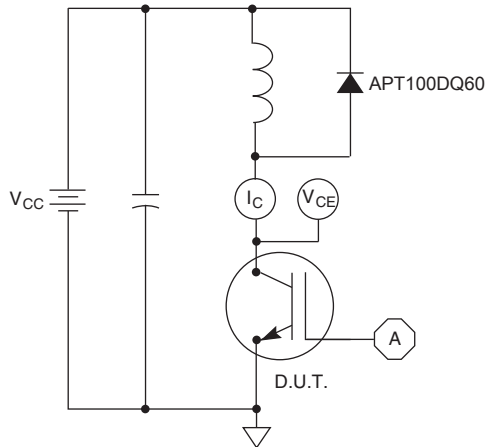

Figure 21, Inductive Switching Test Circuit
① Continuous current limited by case temperature.
② Repetitive Rating: Pulse width limited by maximum junction temperature.
③ For Combi devices, I_{ces} includes both IGBT and FRED leakages
④ See MIL-STD-750 Method 3471.
⑤ E_{on1} is the clamped inductive turn-on energy of the IGBT only, without the effect of a commutating diode reverse recovery current adding to the IGBT turn-on loss. Tested in inductive switching test circuit shown in figure 21, but with a Silicon Carbide diode.
⑥ E_{on2} is the clamped inductive turn-on energy that includes a commutating diode reverse recovery current in the IGBT turn-on switching loss. (See Figures 21, 22.)
⑦ E_{off} is the clamped inductive turn-off energy measured in accordance with JEDEC standard JESD24-1. (See Figures 21, 23.)
⑧ R_G is external gate resistance, not including $R_{G(int)}$ nor gate driver impedance. (MIC4452)